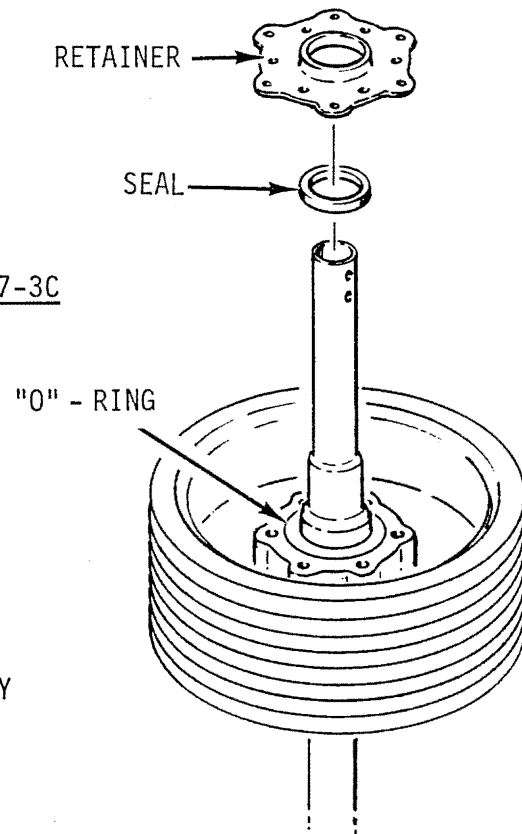
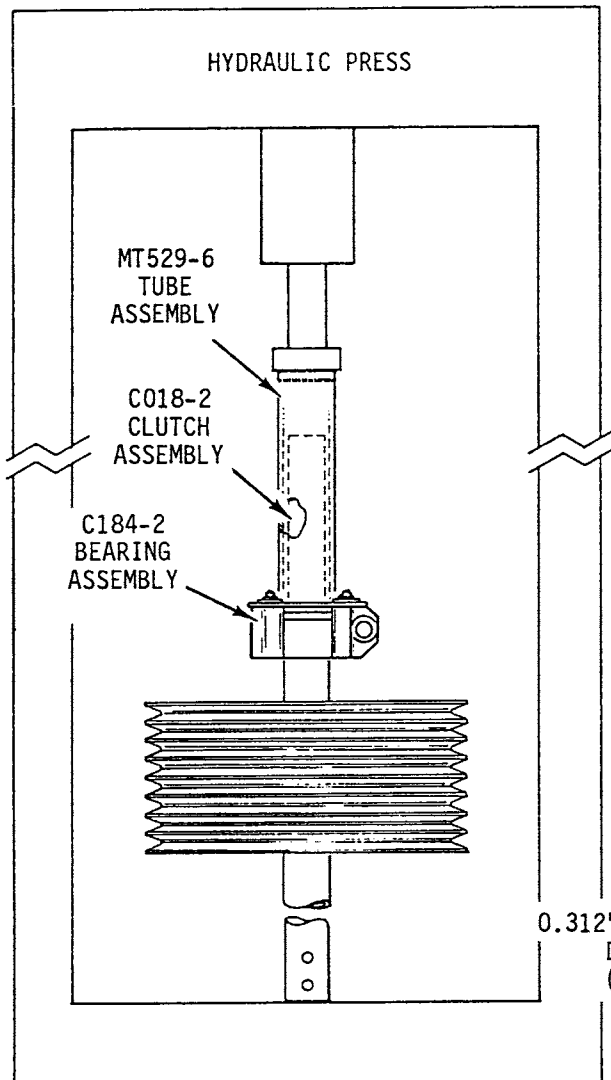
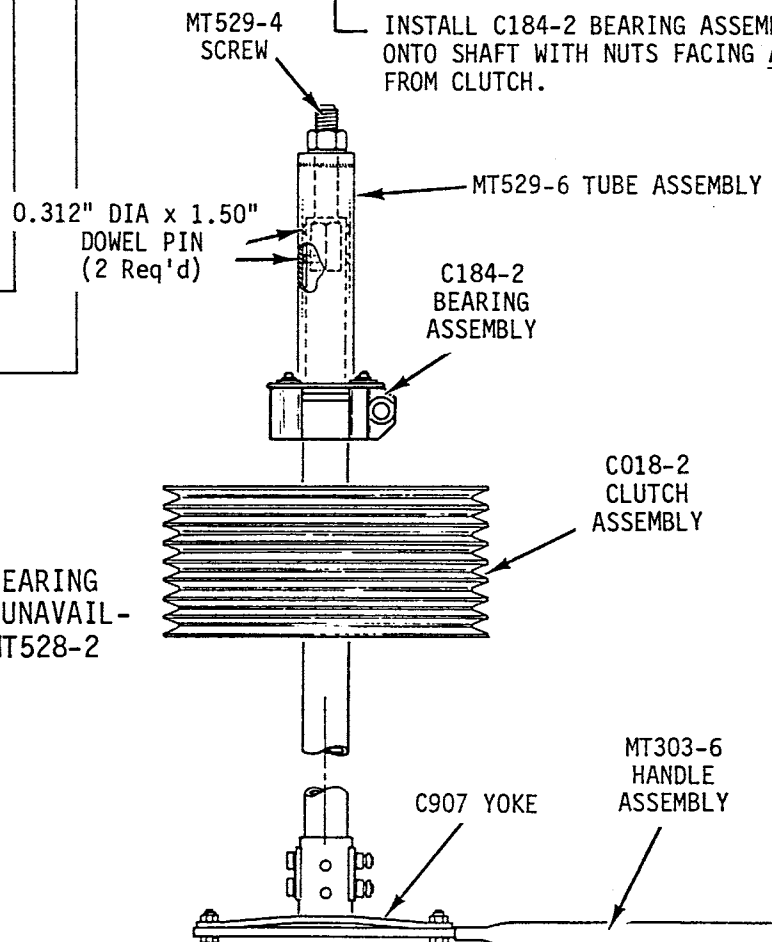

FIGURE 7-3D
FIGURE 7-3E
FIGURE 7-3G
- a. Using a hydraulic press: Support clutch assembly at forward end of clutch shaft. Place MT529-6 tube assembly on clutch shaft per Figure 7-3E. Center tube assembly over inner race of bearing assembly. Press bearing assembly until MT529-6 tube assembly bottoms on end of clutch shaft (bearing assembly should be at dimension shown in Figure 7-3D).
- b. Without hydraulic press: Use MT529-6 tube assembly (included in MT528-1 tool set) and MT528-2 tool set as shown in Figure 7-3G. Center tube assembly over inner race of C184 bearing assembly. Tighten nut onto MT529-4 screw (coat nut face and screw with anti-seize) until MT529-6 tube assembly bottoms on end of clutch shaft (bearing assembly should be at dimension shown in Figure 7-3D).
12. With clutch assembly remaining vertical, fill housing with A257-4 lubricant until lubricant level is flush with top of bearing races per Figure 7-3D.